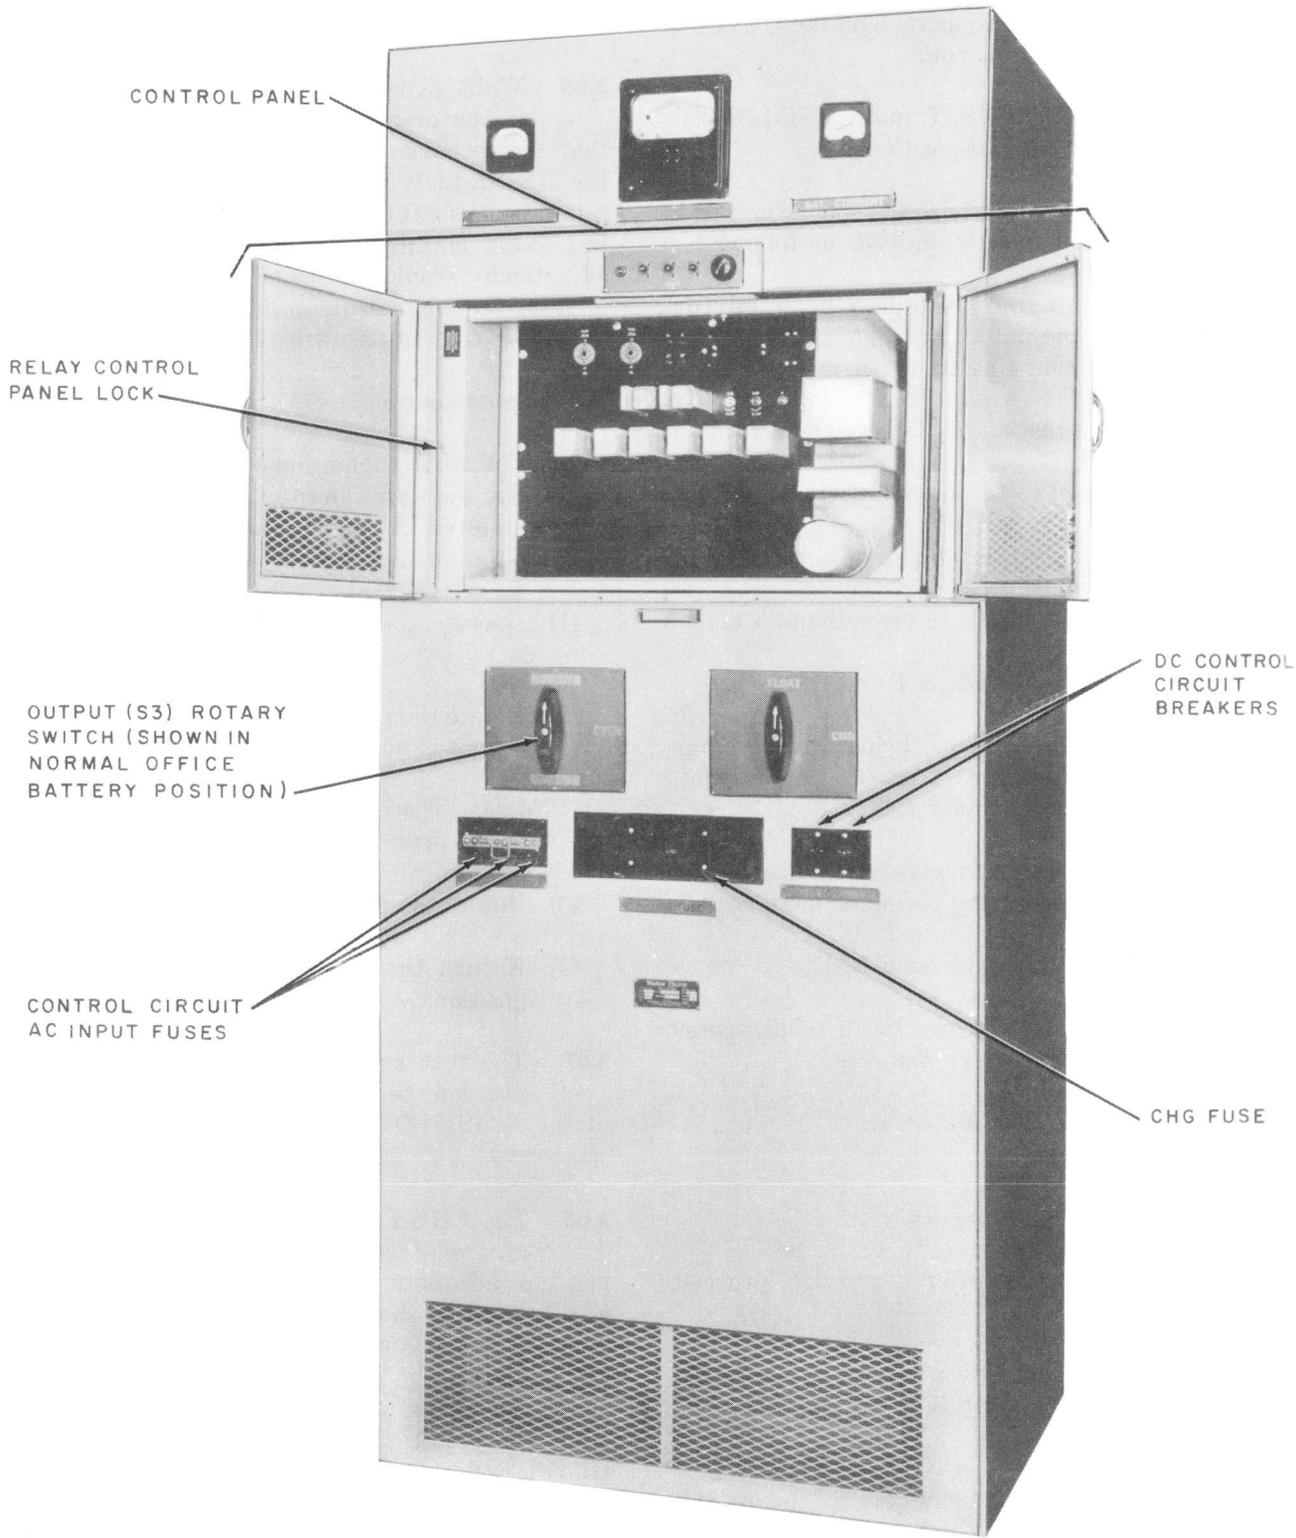

Fig. 1—KS-15689 Rectifier With Relay Control Panel
- (1) Operate the MAN-TEST key to MAN.
- (2) Operate the ON-OFF key to ON.
- (3) Rotate the shaft of the MAN potentiometer slowly clockwise (cw), observing the SAT CURRENT milliammeter, the OUTPUT VOLTS voltmeter, and the OUTPUT CURRENT ammeter relay (see Fig. 1).
- (4) Add load to the battery or reduce the output of other rectifiers or generators supplying it, as required, to avoid service reactions.
- (5) Bring the output up to its full rated value by turning the MAN potentiometer cw.
- (6) Reverse the operation, finally bringing the MAN potentiometer to its normal ccw position.
- (7) Operate the MAN TEST key to TEST.
- (8) Bring the rectifier up to its rating by operating the RAISE-LOWER key to RAISE
**3.09** The rotary switch (S3), designated OPEN on the lower left-hand side of the rectifier (see Fig. 1), is a 3-position switch. In the OPEN position (horizontal position to the right), the switch disconnects the rectifier from the batteries. In